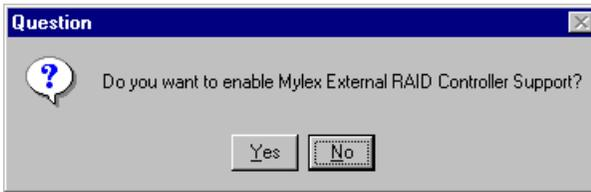

Figure 2-17. Enable External RAID Controller Support?
4. After installation completes, the following message appears (Figure 2-17):